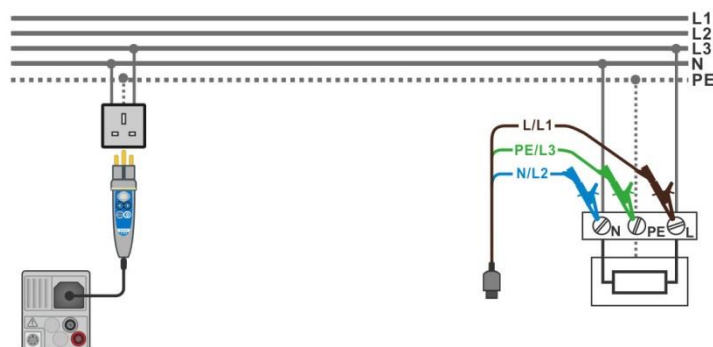

Figure 7.83: Connection of Plug commander and 3-wire test lead
- › Connect test leads or Plug commander to the object under test, see **Figure 7.83**.